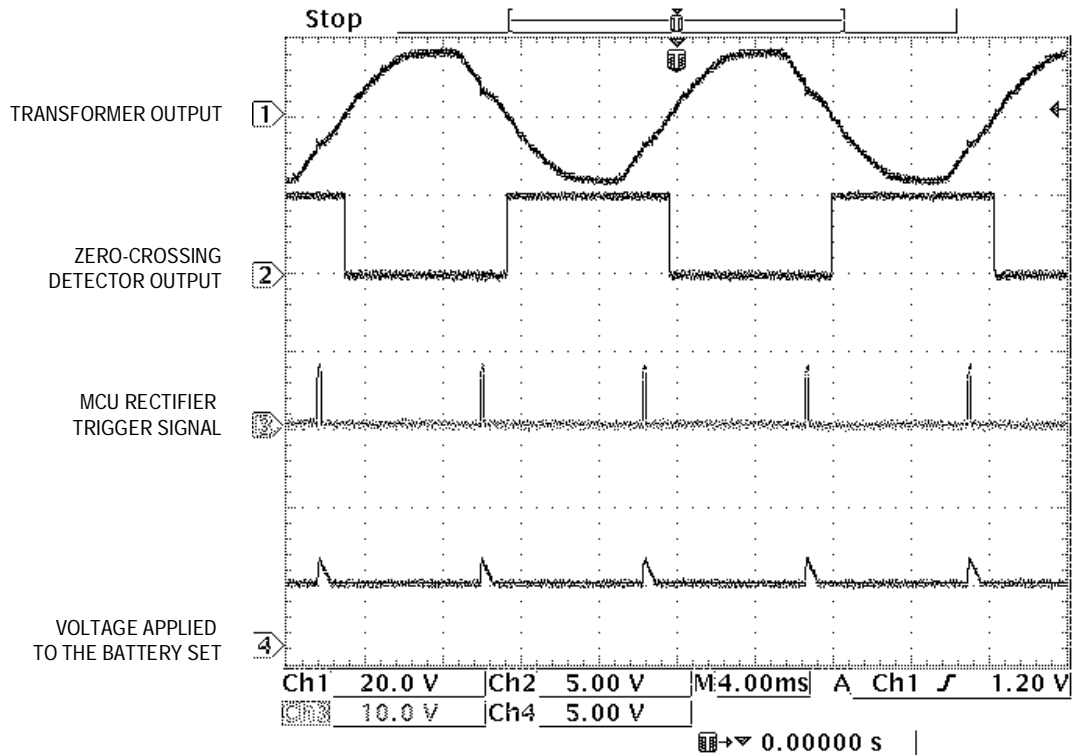

Figure 5. Trickle Charge Waveforms
- b. If the battery set voltage begins to decline, the ADC reading will be lower than the previous value and the system stops the normal charge process and starts the trickle charge procedure. During trickle charge, current flowing into the batteries is reduced to 28 mA by adjusting the MCU timer counter to obtain a delay of 7 ms with regard to the zero-crossing of the sinusoidal ac signal, as shown in Figure 5. While in trickle charge, the system does not monitor the battery pack voltage.